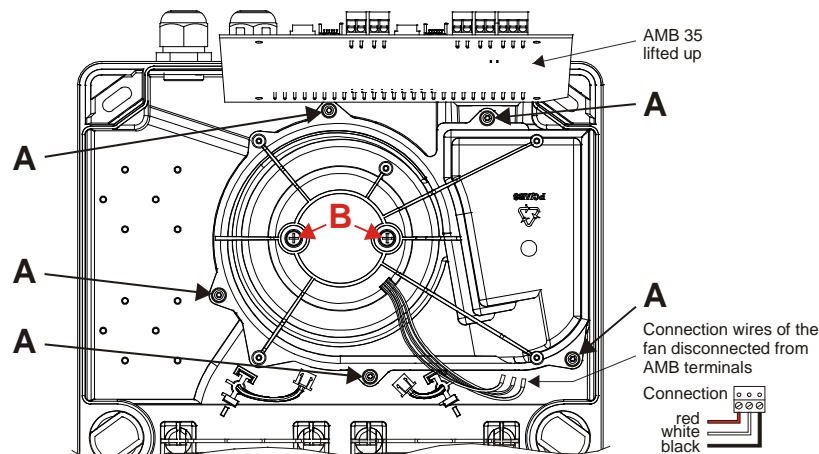

Fig. 4 Removing the aspirating fan unit
To replace the AFU 35 aspirating fan unit, the AMB 35 Main Board must be removed. This is done by carefully removing all internal cable connections. Remove the three connection wires from the terminals. It is not necessary to pull out plug-in terminals 1 to 26. After removing the fastening screws of the AMB 35 with a **Torx T10 screwdriver**, the AMB 35 can be lifted up toward the cable entries and the fastening screws of the aspirating fan unit are accessible. To remove the aspirating fan unit, remove the five screws **A** with a **Torx T15 screwdriver** (see Fig. 4).
- When connecting the new aspirating fan unit, pay attention to the wire colours (see Fig. 4).